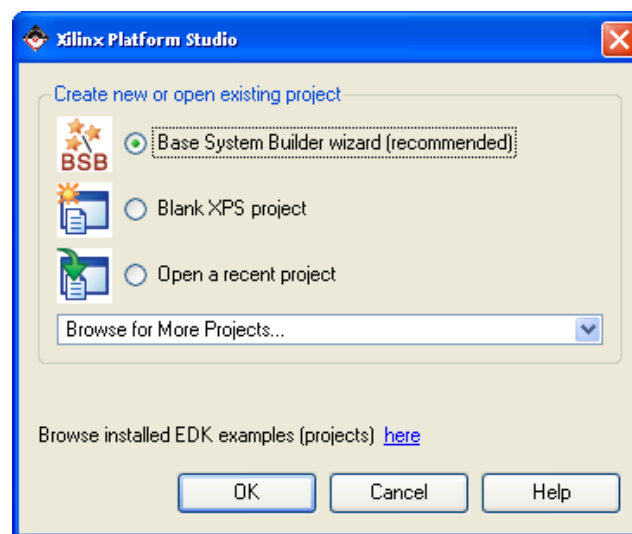

Figure 1-3. New Project Creation Using Base System Builder
- ❶ Open XPS by selecting **Start → Programs → Xilinx ISE Design Suite 10.1 → EDK → Xilinx Platform Studio**
- ❷ Leave the default **Base System Builder** option and click **OK** to start the wizard (**Figure 1-3**). If you clicked cancel, you can select **File → New Project** and the same dialog box will appear.